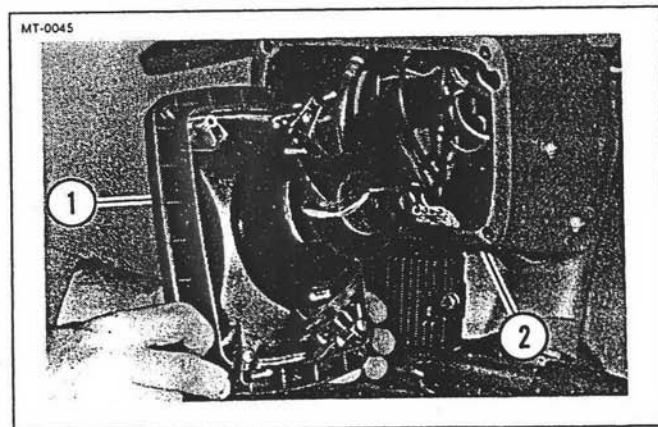

Figure 5-11. Removing Headlamp Assembly
2. See Figure 5-11. Separate headlamp assembly (1) from headlamp cowling (2).